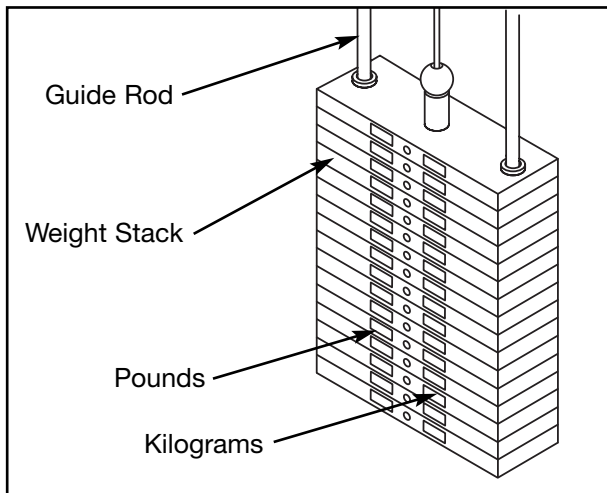

Figure 4
- E. Carefully remove front side, leaving decals adhering to weight plates. See Figure 4.